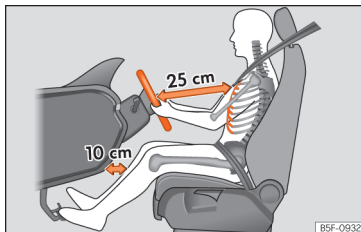

Fig. 3 The correct distance between the driver and the steering wheel must be at least 25 cm (10 inches).
- Move the steering wheel so it is at least 25 cm (10 inches) away from the sternum »» Fig. 3 and you can hold it with both hands on both sides, on the outer part, with your arms slightly bent.
- Move the seat in such a way that you can step on the pedals with your knees slightly bent and with a distance between the knees and the dashboard of at least 10 cm (4 inches) »» Fig. 3.